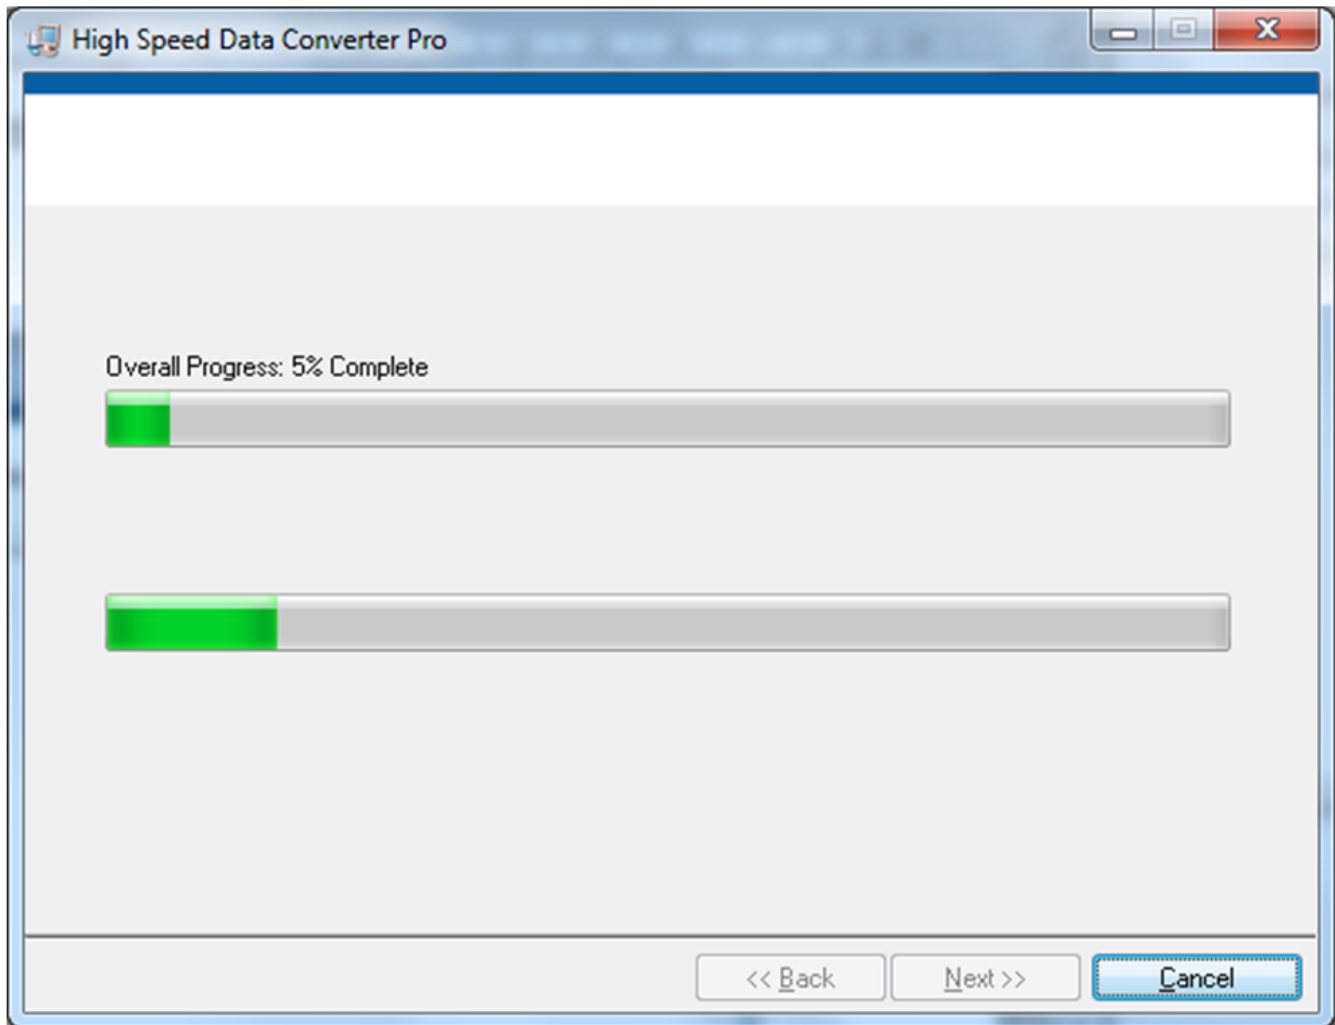

Figure 45. HSDCPro Install (Installation Progress)
- The window shown in Figure 45 should appear indicating that the installation is in progress.